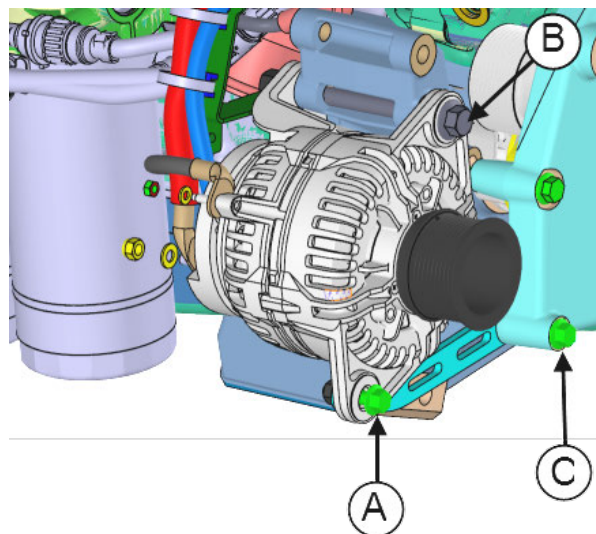

FIGURE 46
5. Reinstall the alternator using previously removed bolts **A** & **B** (FIGURE 46).
6. To ease installation, loosen bolt **C** if necessary (FIGURE 46).